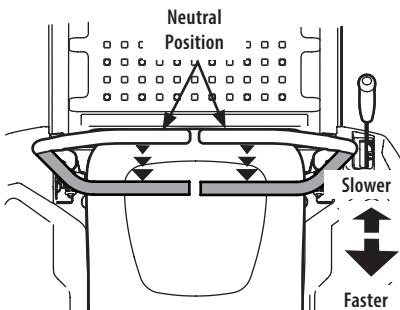

Figure 25
- Slowly and evenly move both lapbar drive control levers rearward. The tractor will start to move in the reverse direction (Figure 25).